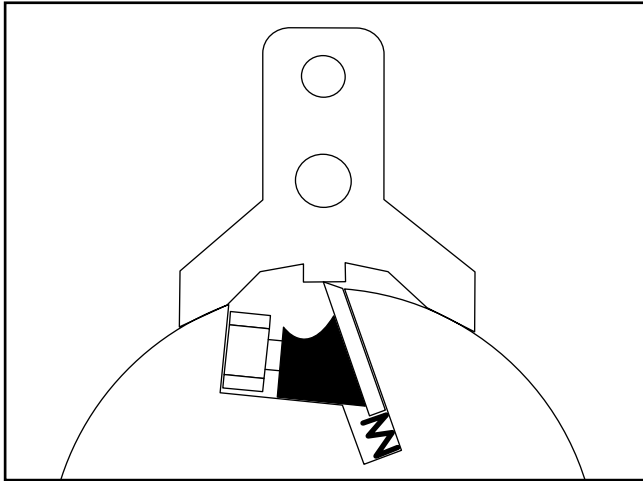

Figure 33. Proper knife setting jig placement.
4. Place the knife setting jig over the knife on the cutterhead as shown in **Figure 33**. The knife setting jig will push the knife into position in the cutterhead.